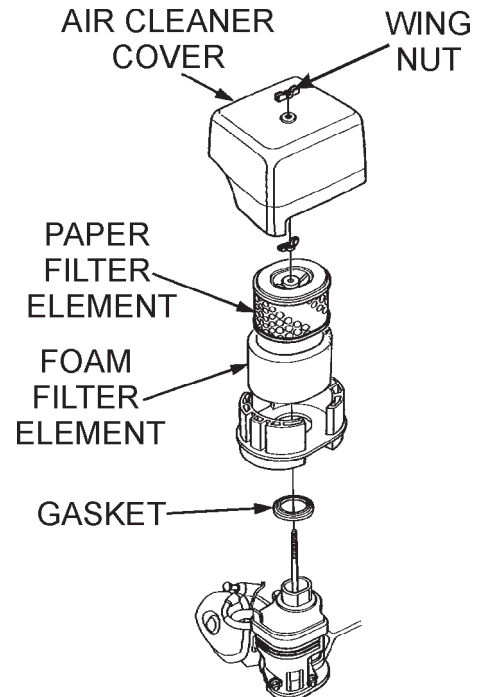

Figure 26. Engine Air Cleaner
1. Remove the air cleaner cover and foam filter element as shown in Figure 26.